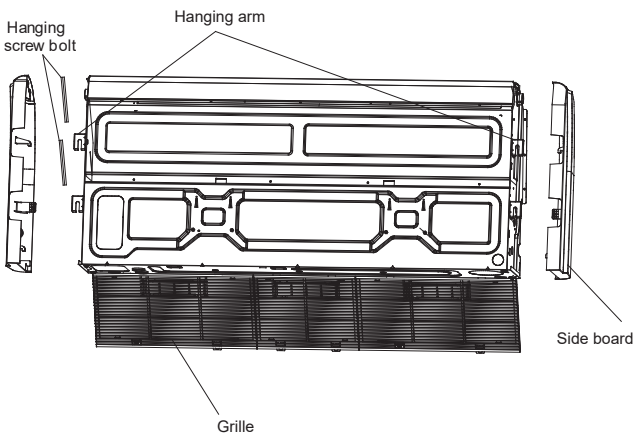

Fig.5-8
- Remove the side board and the grille. (Refer to Fig. 5-8)